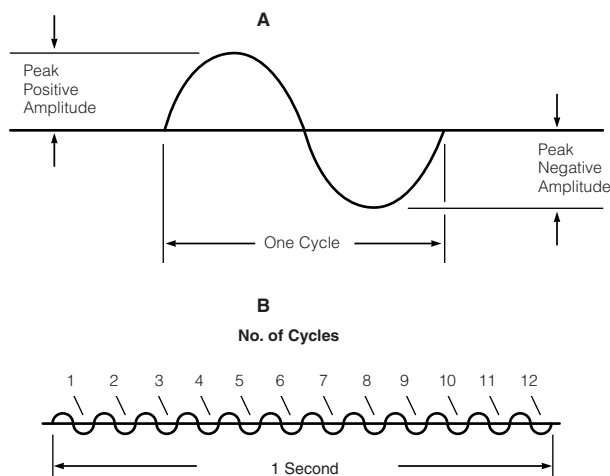

Figure 8
An RF wave is a sine wave, meaning that it smoothly swings from zero to a positive peak value, then back down past zero to a negative peak value, then back to zero to complete a 360 electrical degree cycle. The positive and negative peaks are always equal in amplitude. The two qualities which characterize this type of wave are amplitude and frequency (f). Figure 8 shows these two characteristics. Amplitude refers to the peak value attained by the wave and corresponds to voltage. Frequency refers to the number of oscillations per second. For example, the sine wave in Figure 8(B) has completed 12 cycles in one second. Therefore, we would say that this wave has a frequency of 12 cycles per second or 12 Hertz. The time for one complete cycle is defined as the period (T). The relationship between the period and frequency is given by the equation: